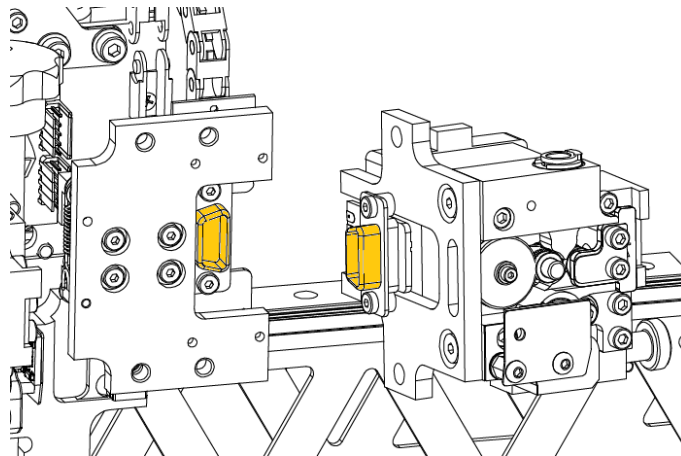

Fig. 87 Installing the extruder
15. Install the T1 extruder in the printer by inserting the plug into the D-sub socket (Fig. 87, yellow).